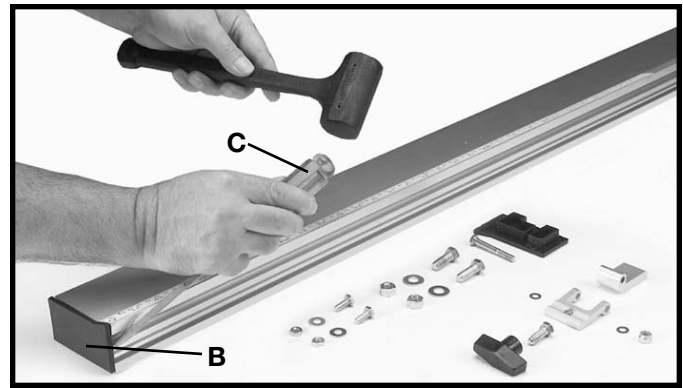

Fig. 20
2. The guide rail has end caps inserted into each end of the rail. Remove the right end cap (B) Fig. 20, by inserting a flathead screwdriver (C) into the channel in front of the guide rail and press outward against the inside of the end cap (B) as shown. The end cap (B) will pop out. **NOTE:** Do not attempt to remove the end cap by forcing the screwdriver between the end cap and the end of the rail. This will damage both the cap and the rail.